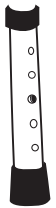

FIGURE 1
4. Make certain that the height adjusting snap buttons fully protrude through the same respective hole of each leg extension. This will ensure that the leg extensions are securely locked in position and an even height is achieved [see Figure 1].